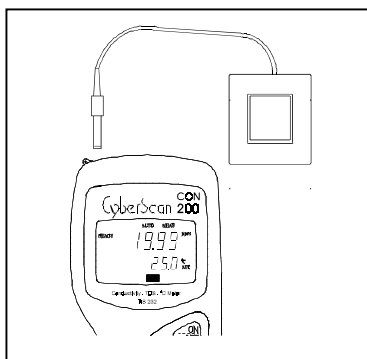

Figure 9: Inserting the A.C. power adapter
3. Insert the D.C. jack into the socket of the meter as shown in Figure 9.